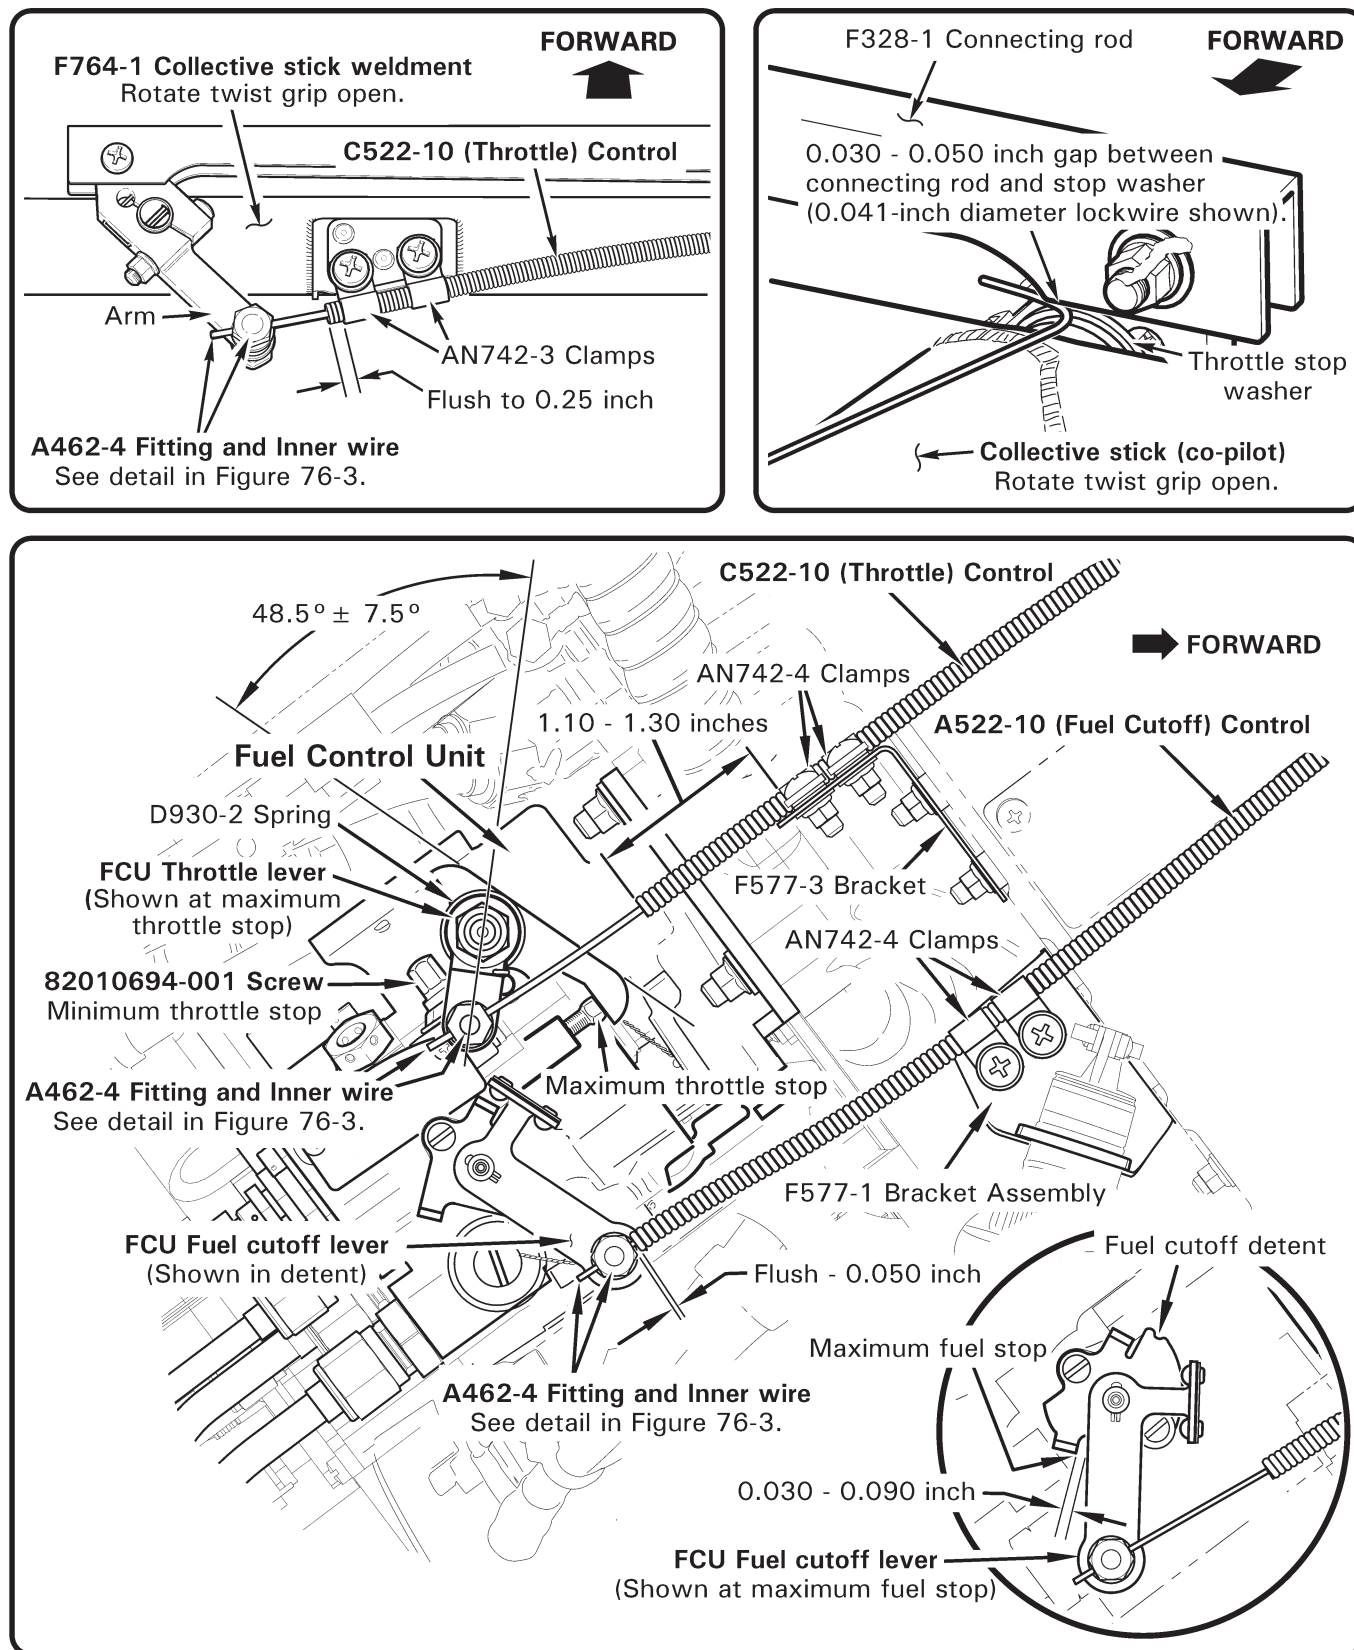

FIGURE 76-1 FUEL CONTROL UNIT
2. Refer to Figure 76-1. Remove fasteners securing C522-10 throttle and A522-10 fuel cutoff control inner wires to FCU throttle and fuel cutoff levers.
2. Refer to Figure 76-1. Verify FCU throttle lever rigging angle is $48.5^{\circ} \pm 7.5^{\circ}$. As required, remove hardware securing serrated levers and reposition to proper angle. Install hardware, special torque nut per Section 20-33, & torque stripe per Figure 5-1.
2. Refer to Figure 76-1. Remove palnut and loosen nut securing A462-4 fitting and A522-10 (fuel cutoff) control inner wire to FCU fuel cutoff lever.